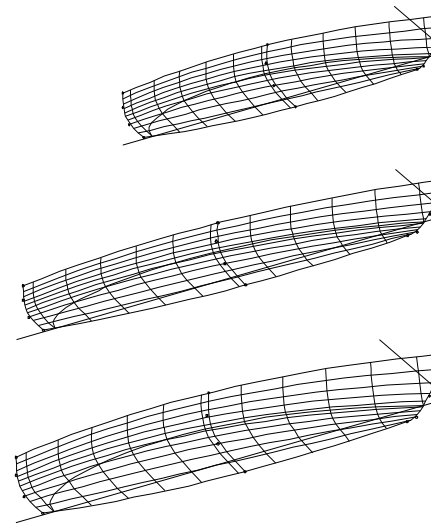

Fig. 1
**2 File>Open, DEMO.MS2 from the \Marine Tutorials folder** (directory) (Fig 1, top).
**Transform factor for X** field and **click <OK>** then click **<OK>** to the non-transformable entity box.  or **<F>** (**Zoom to Fit**) to see the new stretched model. The X-scaled boat hull (Fig. 1, middle) is 33.3% longer than DEMO, but otherwise unchanged. In particular, the Y and Z coordinates of each point in the model were unaffected; just the X coordinates were multiplied by 1.333.
The model updates and shows a hull that is in reasonable proportion for a 40-ft sailboat (Fig. 1, bottom).